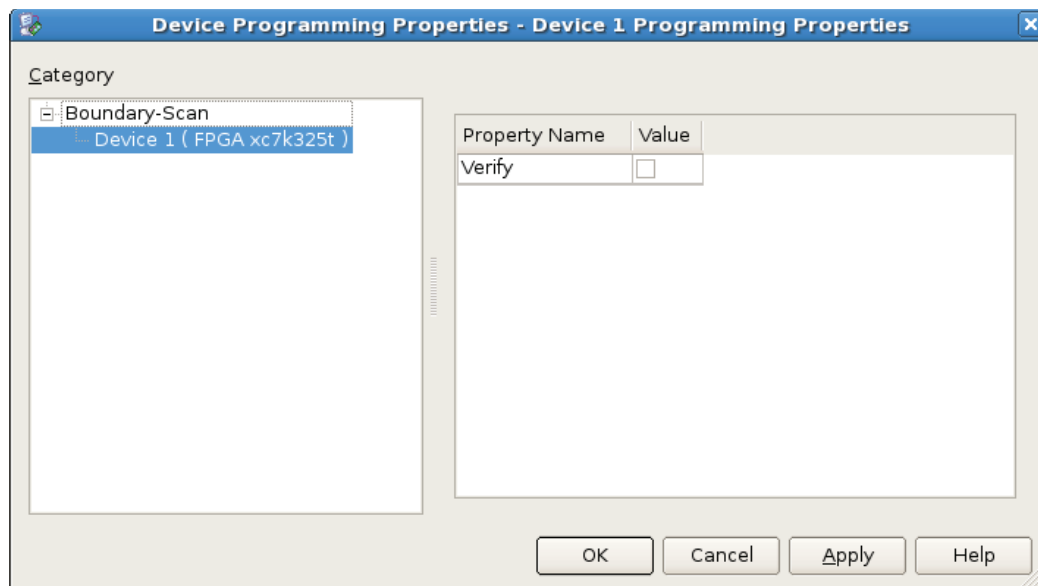

Figure 15: Device Programming Properties Dialog Box
8. In the **Device Programming Properties** dialog box, click **OK** (Figure 15).